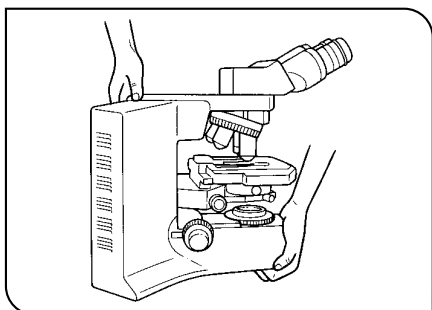

Fig. 3
3. When moving the microscope, carefully carry it with the grasping part on the rear of the arm and the base as shown in Fig. 3 (Weight: approx. 13 kg).